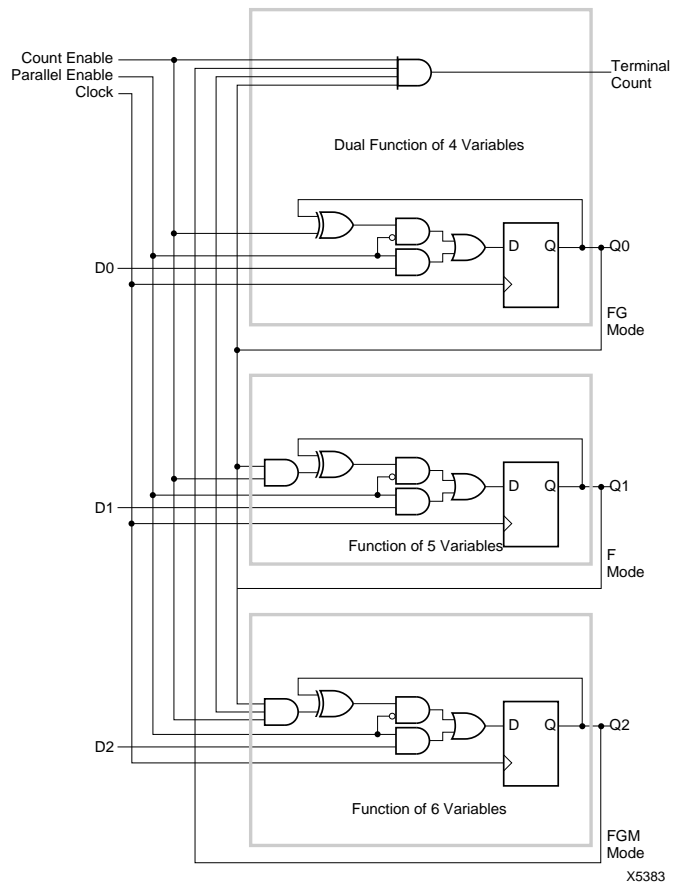

Figure 6. C8BCP Macro.
The combinatorial-logic portion of the CLB uses a 32 by 1 look-up table to implement Boolean functions. Variables selected from the five logic inputs and two internal block flip-flops are used as table address inputs. The combinatorial propagation delay through the network is independent of the logic function generated and is spike free for single input variable changes. This technique can generate two independent logic functions of up to four variables each as shown in Figure 5a, or a single function of five variables as shown in Figure 5b, or some functions of seven variables as shown in Figure 5c. Figure 6 shows a modulo-8 binary counter with parallel enable. It uses one CLB of each type. The partial functions of six or seven variables are implemented using the input variable (E) to dynamically select between two functions of four different variables. For the two functions of four variables each, the independent results (F and G) may be used as data inputs to either flip-flop or either logic block output. For the single function of five variables and merged functions of six or seven variables, the F and G outputs are identical. Symmetry of the F and G functions and the flip-flops allows the interchange of CLB outputs to optimize routing efficiencies of the networks interconnecting the CLBs and IOBs.